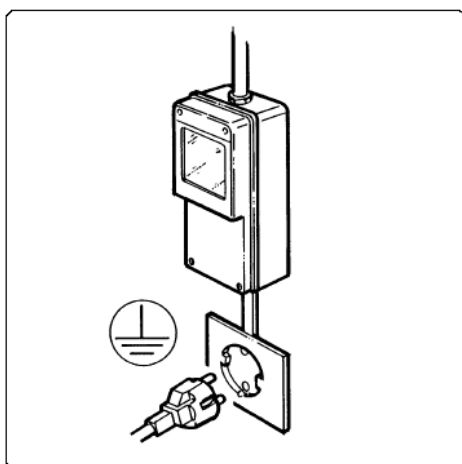

Fig. 59
- The machine's electrical safety is only guaranteed when it is connected to a suitable earth system, structured as provided by the national safety current regulations (Fig. 59). Therefore, the manufacturer cannot be held responsible for any damage due to failure of the grounding system of the machine.
- For a safe and correct installation, it is essential to provide a suitable socket controlled by a thermal cut-out switch whose contacts are at least 3 mm apart, in accordance with the current national safety regulations (see Fig. 59).